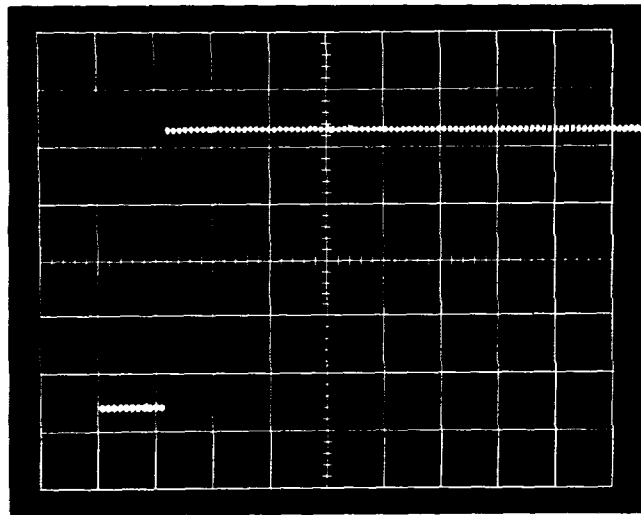

Fig. 7-3. Showing Dot Slash ≤ 0.1 DIV at 20 Hz (time exposure).
- d. Change the repetition rate of the Type 106 to 20 Hz, and observe that the vertical excursion of the dot is ≤ 0.1 division. See Fig. 7-3.